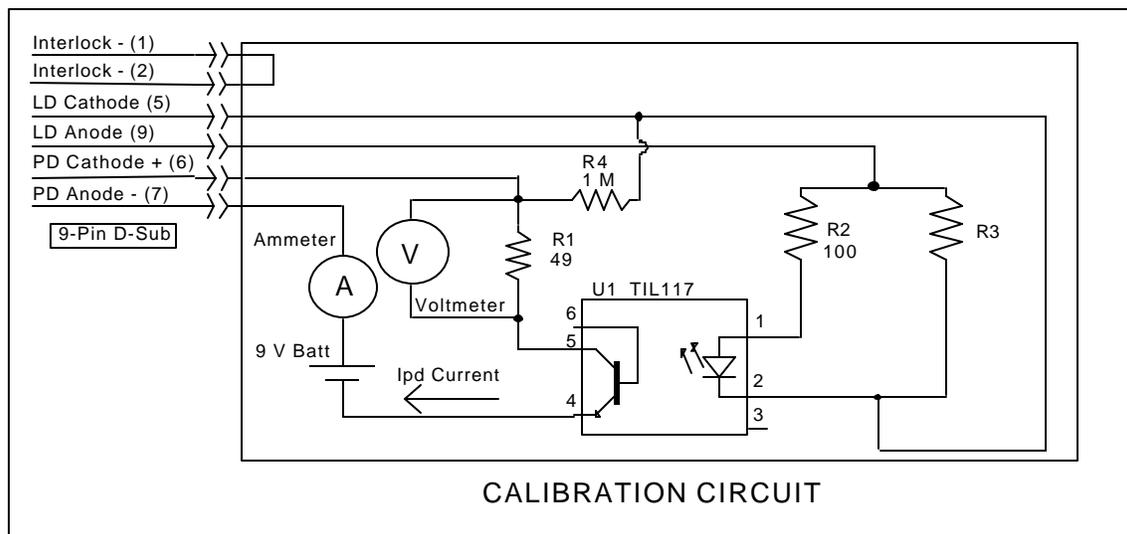

Figure 5.1 I_{PD} Calibration Circuit
- a. Select the CSM-39400M to be calibrated by pressing the appropriate (ADJUST) switch. With the LASER output off, connect a calibrated ammeter to the PD Anode output of the CSM-39400M, and connect the circuit of Figure 5.1 to the LASER and PD outputs.
- a. With the LASER output off, connect a calibrated ammeter to the PD Anode output of the CSM-39400M, and connect the circuit of Figure 5.1 to the LASER and PD outputs.
If a calibrated ammeter (with 0.1 μA resolution) is not available, place a calibrated DMM (with 0.1 mV resolution) to measure the voltage across the resistor, R1, as shown in Figure 5.1. Calculate the current in the following steps by using Ohm's Law: